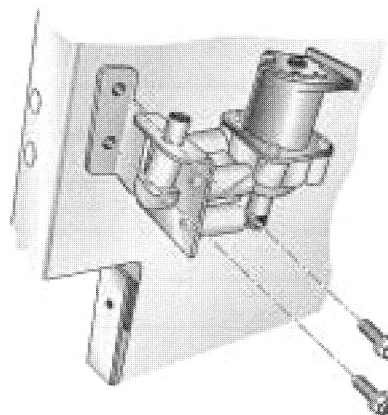

Fig. 3-18
3. Remove the two (2) Hex-head screws securing the water valve to the side of the cabinet liner. (Fig. 3-18)